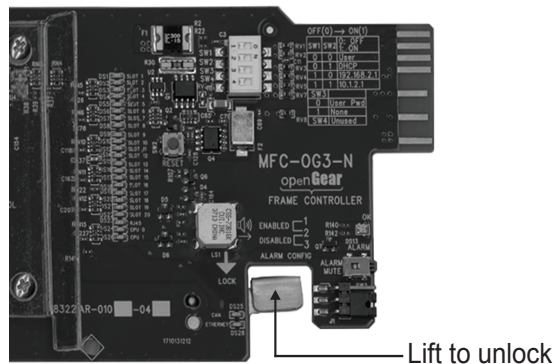

Figure 5.1 Frame Controller Card — Lock
4. Lift the lock before inserting the card into its slot. (**Figure 5.1**)